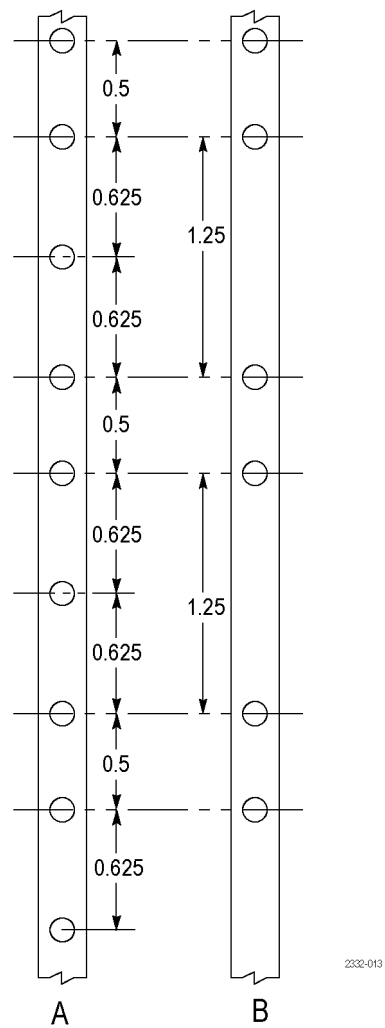

Figure 8: Standard rack hole spacing
2. Standard equipment racks use one of two mounting hole spacing methods. Both methods use mounting holes spaced 0.5 inch apart, separated by a 1.25 inch gap. One method (A) places an additional mounting hole in the middle of the 1.25 inch gap (at 0.625, or 5/8, inch); the other method (B) does not. (See Figure 8.)
3. Select two 0.5 inch-spaced holes in the front rail. Verify that there are clearances of 1.5 inch above the upper mounting hole and 5.50 inch below the lower mounting hole. (See Figure 8.)
4. Slide the oscilloscope into the equipment rack so that the pin extending back from the left side, just below the upper mounting hole, goes into the lower of the 0.5 inch-spaced holes in the front rail. This pin is a locating guide, and also an aid to holding the oscilloscope in place while securing the oscilloscope to the instrument rack. (See Figure 8.)